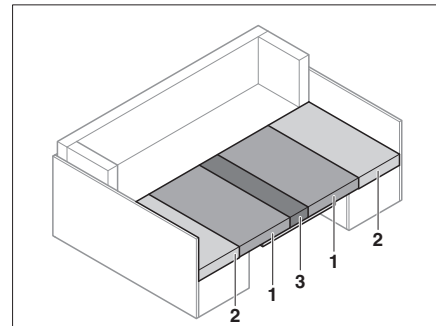

Fig. 73 After conversion
- Pull the seat cushions (Fig. 73,1) into the centre.
- Insert the back cushions (Fig. 73,2) between the seat cushions (Fig. 73,1) and the exterior wall.
- Insert the additional cushion (Fig. 73,3) onto the table between the seat cushions (Fig. 73,1).